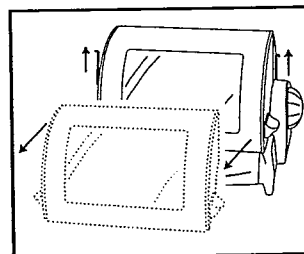

Figure 12
2. Firmly pull up on the Hooks while pulling Cover forward. See Figure 12. The Cover should release from the Rotisserie Oven Body.